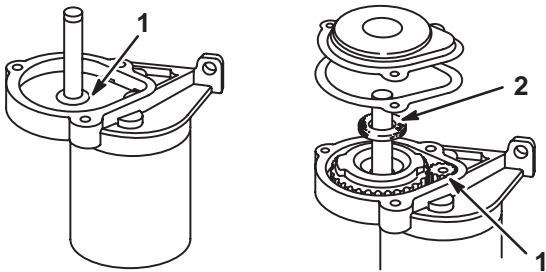

Fig. 102 – Lubricating Gears
16. Install washer, gasket and cover, Fig. 102.